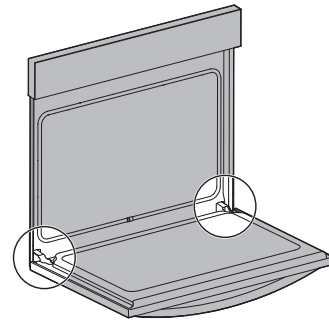

Figure 15: Door hinge location
1. Open oven door completely, horizontal with floor (Figure 15).
3. Fully open the oven door, horizontal with floor (Figure 15).